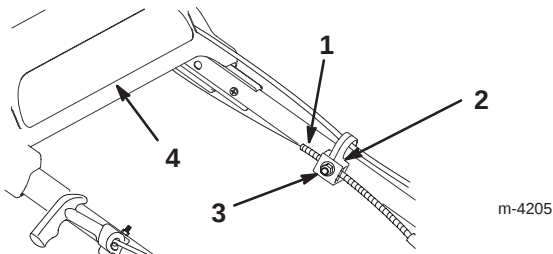

Figure 20
3. Loosen the cable support nut (Fig. 20).
5. With the upper handle pushed back as far as possible and while holding the drive bracket down, pull the cable jacket down (toward the lawn mower) until there is no slack in the cable (Fig. 20).
6. Tighten the nut on the cable support (Fig. 20).